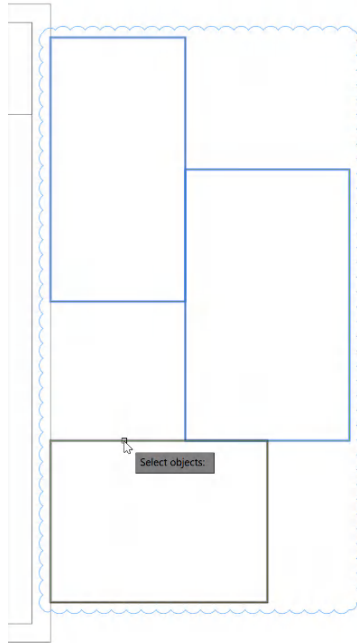

Figure 14.10: The selected compared objects
3. Select the objects, as shown in *Figure 14.10*.